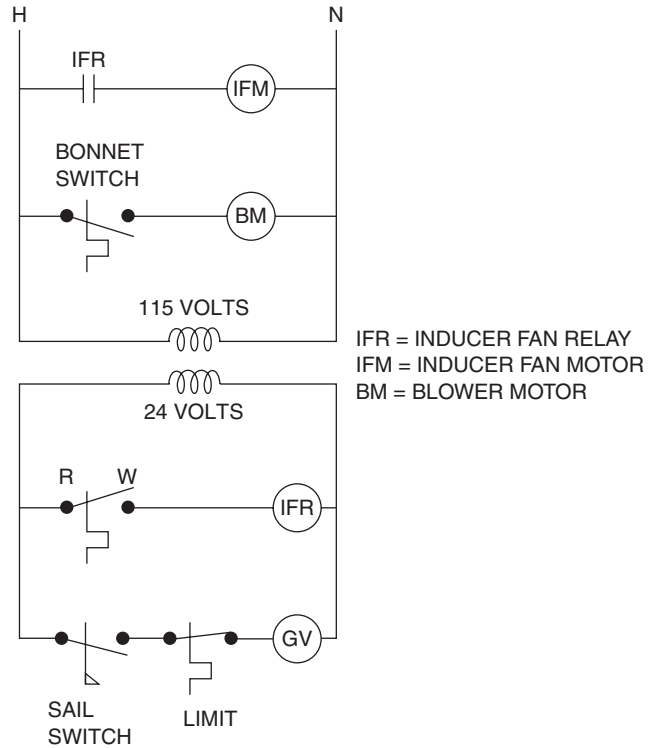

FIGURE 21-17 Inducer fan circuit.
2. The operation of the inducer fan is proved by a pressure switch, a sail switch, centrifugal switch, or other means, which, in turn, supplies power to the ignition sequence. A simplified schematic is given in Figure 21-17.